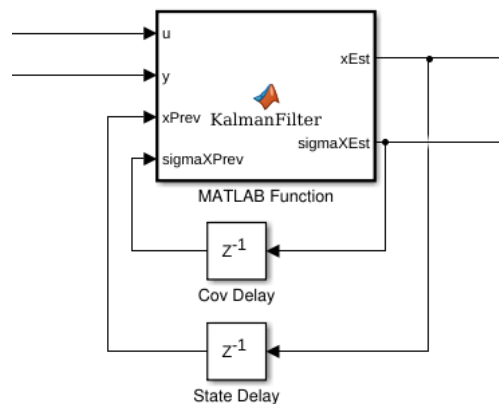

Figure 2: Template for custom Kalman filter.
10. Now you will write a Kalman Filter block to replace the built-in one in Simulink. In later lab assignments you will modify this block for different systems and to estimate the state of nonlinear systems. There are many different ways to accomplish with but we will use the MATLAB Function block with delay blocks to implement the KF as can be seen in Figure 2.